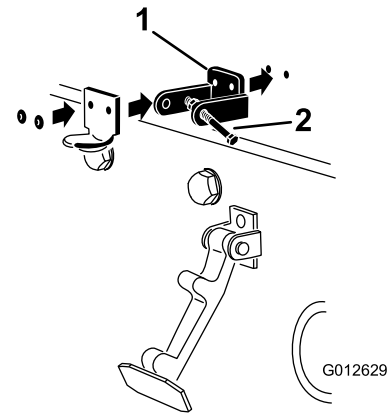

Figure 8
3. While aligning the mounting holes, position the CE lock bracket and the hood-latch bracket onto the hood. The lock bracket must be against the hood (Figure 8). Do not remove bolt and nut assembly from the lock bracket arm.
5. Rivet the brackets and the washers to the hood (Figure 8).